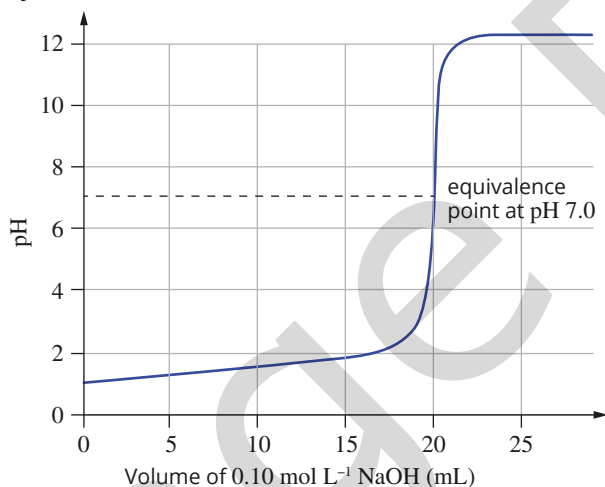

FIGURE 7.4.7 Titration curve
- 1 The titration curve in Figure 7.4.7 shows the change in pH as a solution of 0.10 mol L^{-1} sodium hydroxide is added to a 20.00 mL solution of 0.10 mol L^{-1} hydrochloric acid.